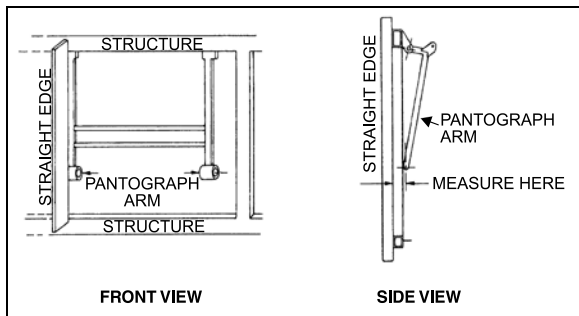
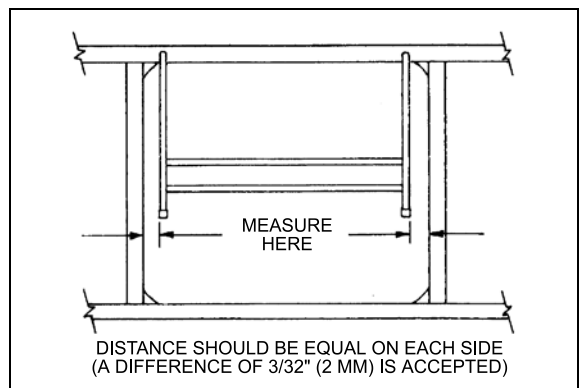

FIGURE 67: PANTOGRAPH DOOR ADJUSTMENT 18062
FIGURE 68: PANTOGRAPH DOOR ADJUSTMENT 18063
Measure distance between a pantograph arm end and a straight edge resting on structure. Repeat procedure for the other arm. The distance on each side should be equal. If not, bend appropriate arm until desired measure is obtained (Figure 67 & Figure 68).
5. When the door is straight, remove the 2x4's and check door operation and fit. A difference of $3/32$ " (2mm) between both sides is accepted (Figure 68).
3. If the door is too far inside, adjust using a rubber mallet (Refer to figure 68).